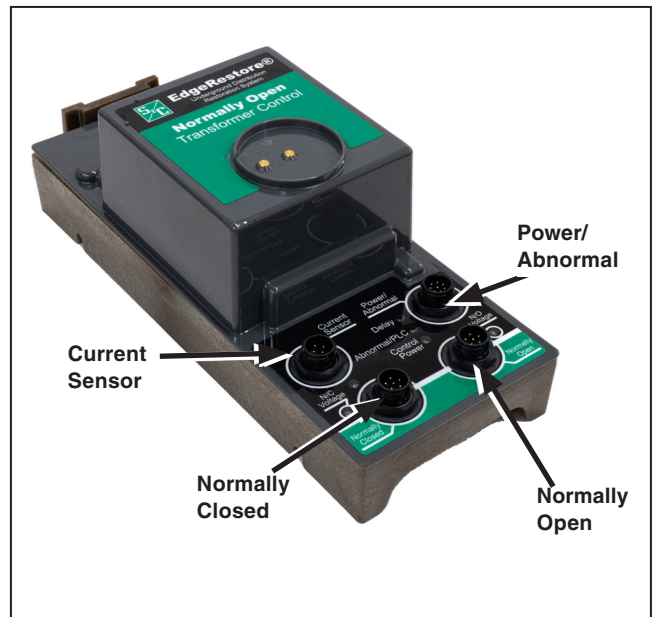

Figure 40. Control connections. A normally open control is shown.
STEP 1. Connect the control cable on the normally closed bushing well interrupter to the six-pin connector labeled “Normally Closed.” See Figure 40.
STEP 2. Connect the control cable on the normally open bushing well interrupter to the “Normally Open” six-pin connector. See Figure 40.